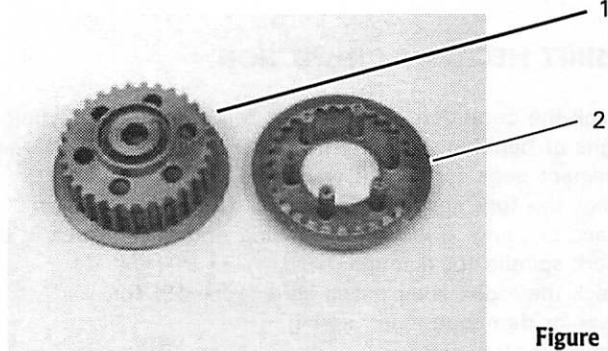

Figure 53
4. Check the condition of the clutch hub (1, Figure 53). Check the splines where the clutch operate for grooves, severe wear or other damage. Severely worn or damaged splines will cause erratic clutch operation. Check the flat surface on the clutch hub for severe wear or damage.
5. Check the inner plate (2, Figure 53) for: